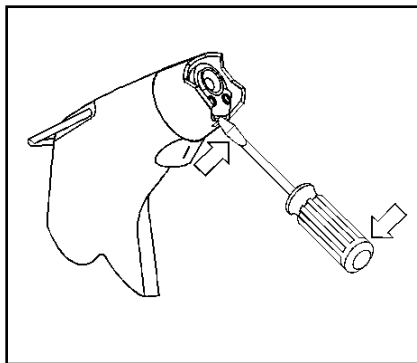

Fig. 4
- 8.31 Insert the tip of a screwdriver into the slot on the gun barrel. See Figure 4.